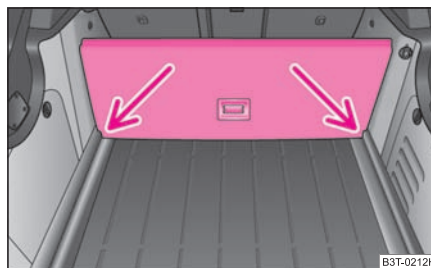

Fig. 82 Luggage compartment: Separation of the luggage compartment ▶
- Lift up a part of the floor with the holder and secure it by moving it into the grooves marked by arrows → page 82, fig. 82. ■